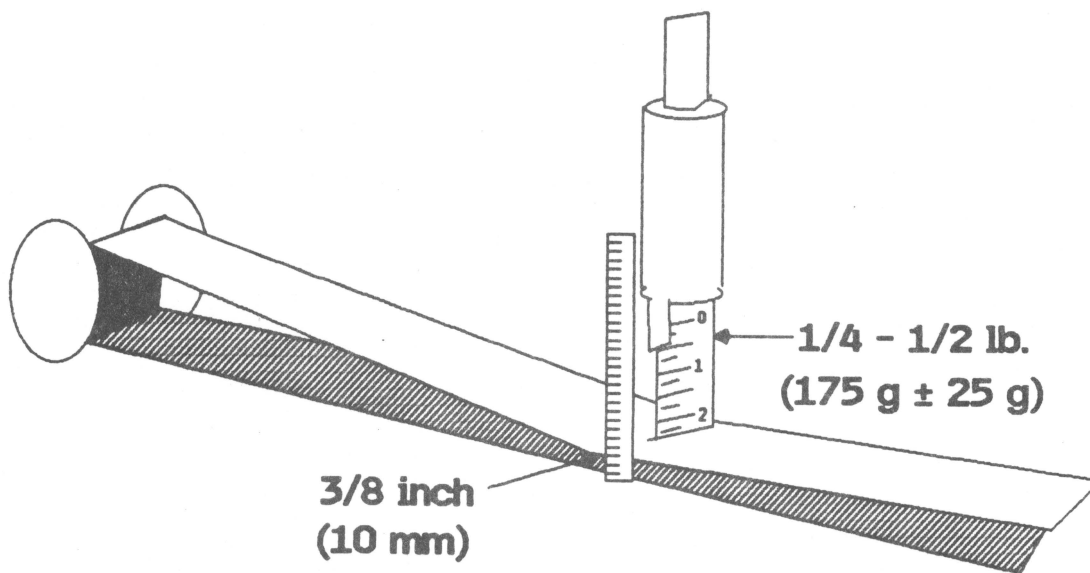

Figure 2
5. Press down on the drive belt with the gauge until the top of the belt is 10 millimeters (about 3/8 inch) from the bottom plate of the printer (see Figure 2). The spring gauge should read between 1/4 and 1/2 pound (175 g, + or - 25 g).